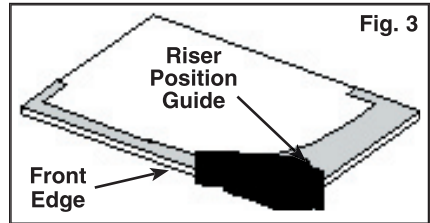

Fig. 3
- Place Riser Position Guide on foam base with edges aligned as shown (Fig. 3).